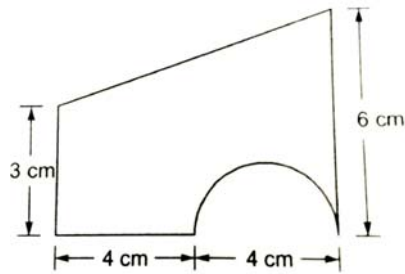

Fig. 6
- A semicircular area is removed from a trapezium as shown in figure 6 determine the centroid of the remaining area.